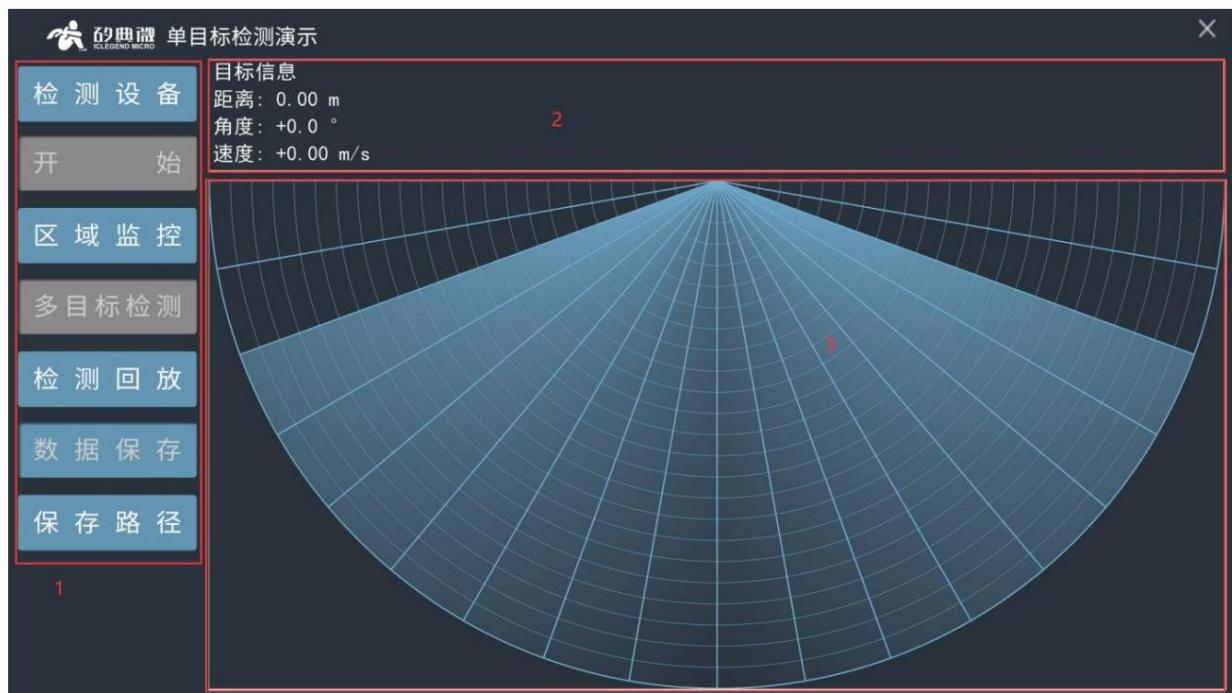

Figure 2.1.1 Demonstration Tool Interface
Step 2: Double-click to open the host computer tool "ICLM\_MTT.exe". The demonstration tool interface will pop up, as shown in Figure 2.1.1.